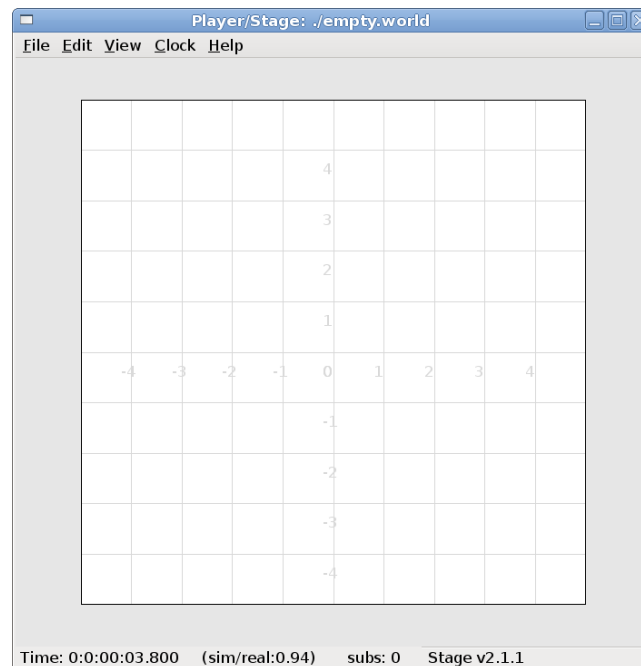

Figure 3.3: An empty map with gui_grid enabled. With gui_grid disabled this would just be an empty white square.
- **gui_grid:** this will superimpose a grid over the model. Figure 3.3 shows a map with a grid.